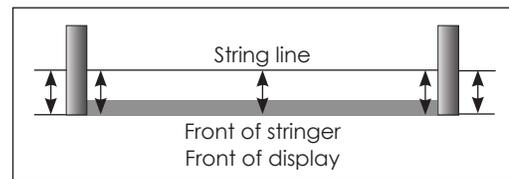

Figure 17: Verify Stringer Straightness
- Verify the stringer is straight. Refer to **Figure 17** and use a string line.